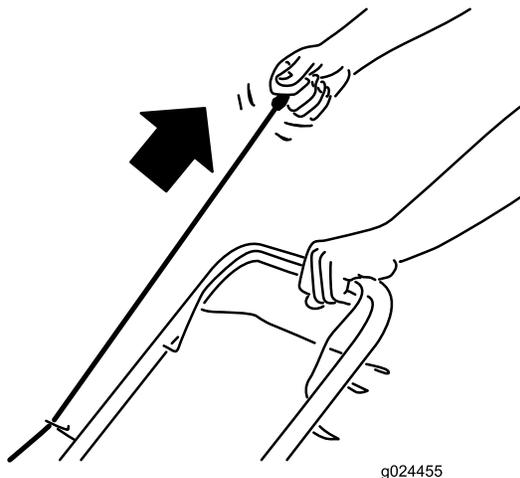

Figure 14
2. Pull the recoil-start handle (Figure 14) lightly until you feel resistance, then pull it sharply, and allow it to return to the rope guide on the handle slowly.